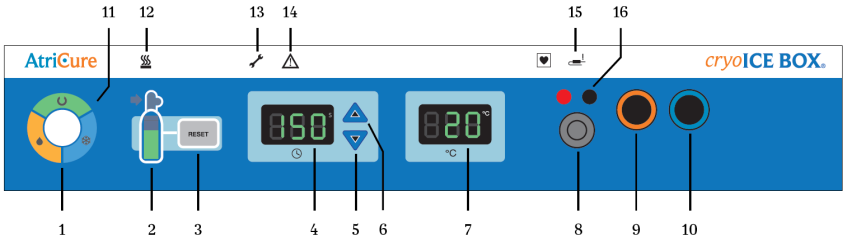
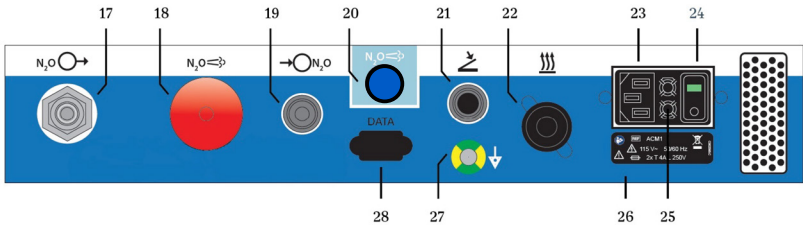

FIGURE 1: ATRICURE CRYOICE BOX FRONT PANEL
FIGURE 2: ATRICURE CRYOICE BOX REAR PANEL
Illustrations of the cryoICE BOX front panel (Figure 1) and rear panel (Figure 2) are shown below.
cryoICE Probe Temperature Display Accuracy (see figure 1 item 7)
Note: Ensure the Exhaust tubing (hose) is firmly attached to the cryoICE BOX N₂O exhaust port, see Figure 2 item 17.